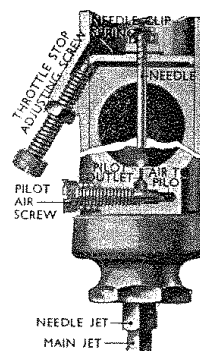

FIG. 9. THROTTLE STOP AND PILOT-AIR SCREW (Standard Carburettor).
On the upper part of the block is the jet-block barrel (H), forming a clean through-way. Integral with the jet block is the pilot jet (J), supplied through the passage (K). The adjustable pilot-air intake (L) communicates with a chamber, from which issues the pilot outlet (M) and the by-pass (N). A throttle stop (see Fig. 9) is provided on the mixing chamber, by which the position of the throttle valve for tick-over is regulated independently of the cable adjustment.
Imagine the throttle valve (B) very slightly open. As the piston descends, a partial vacuum is created in the carburettor, causing a rush of air through the pilot-air hole (L) and drawing fuel from the pilot jet (J). The mixture of air and fuel is admitted to the engine through the pilot outlet (M) which has a pilot-air screw adjustment (see Fig. 9), used in conjunction with the